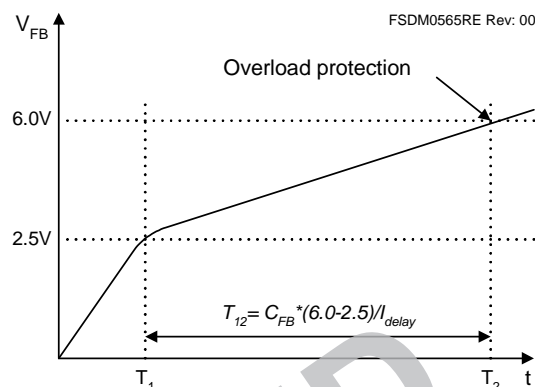

Figure 20. Overload Protection
3.1 Overload Protection (OLP): Overload is defined as the load current exceeding a pre-set level due to an unexpected event. In this situation, the protection circuit should be activated to protect the SMPS. Even when the SMPS is in normal operation, the overload protection circuit can be activated during the load transition. To avoid this undesired operation, the overload protection circuit is designed to be activated after a specified time to determine whether it is a transient situation or a true overload situation. Because of the pulse-by-pulse current limit capability, the maximum peak current through the SenseFET is limited, and therefore the maximum input power is restricted with a given input voltage. If the output consumes beyond this maximum power, the output voltage (V_O) decreases below the set voltage. This reduces the current through the opto-coupler LED, which also reduces the opto-coupler transistor current, thus increasing the feedback voltage (V_{FB}). If V_{FB} exceeds 2.5V, D_1 is blocked and the 3.5 μ A current source starts to charge C_B slowly up to V_{CC} . In this condition, V_{FB} continues increasing until it reaches 6V, when the switching operation is terminated, as shown in Figure 20. The delay time for shutdown is the time required to charge C_B from 2.5V to 6.0V with 3.5 μ A. A 10 ~ 50ms delay time is typical for most applications.